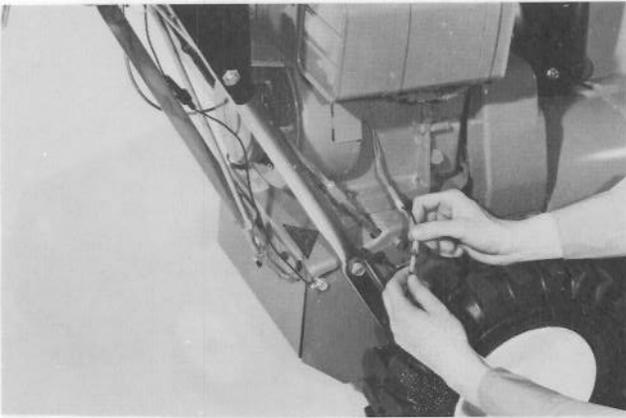

Figure 14
4. Plug black wire from light into black wire from wire harness (Fig. 14).